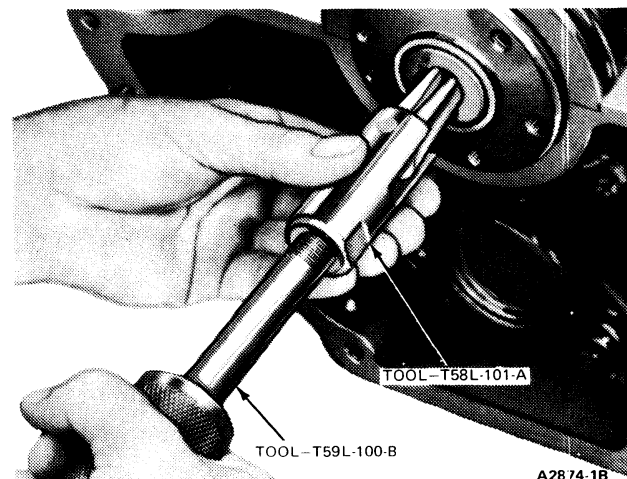

FIG. 34 Removing Clutch Pilot Bearing
2. Using Tools T59L-100B and T58L-101-A or equivalent, remove the pilot bearing (Fig. 34).